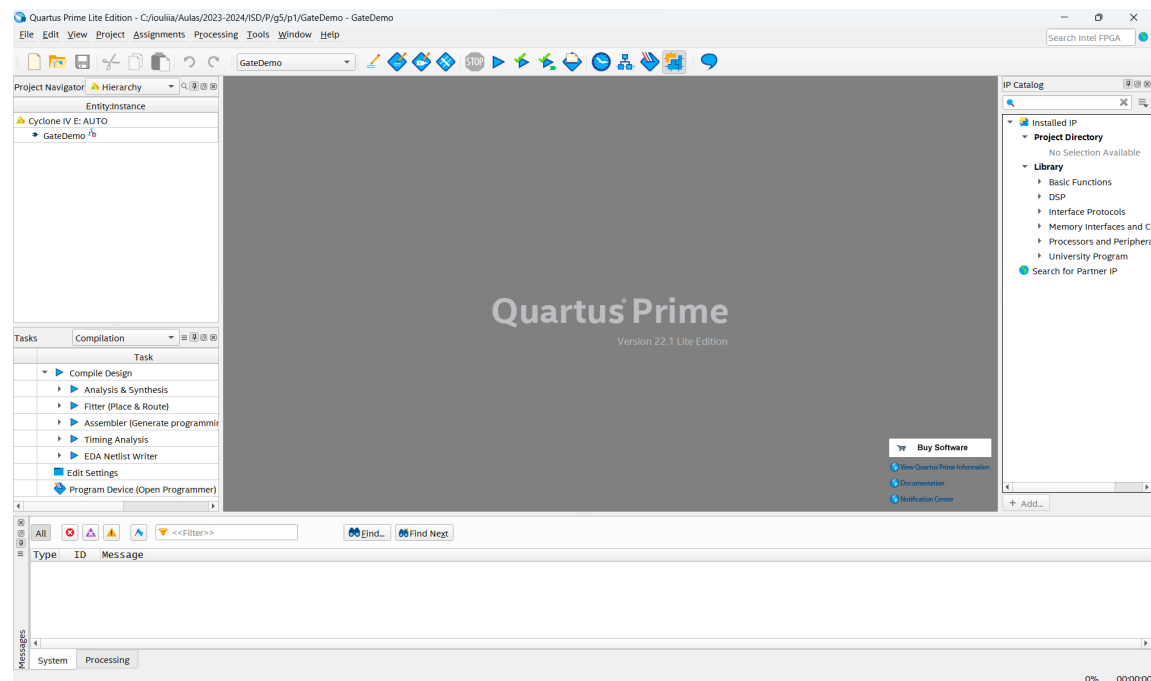

Figure 10 - Aspect of the “Quartus Prime” IDE after project creation.
2. After pressing “Finish” the “Quartus Prime” IDE should look like Figure 10.